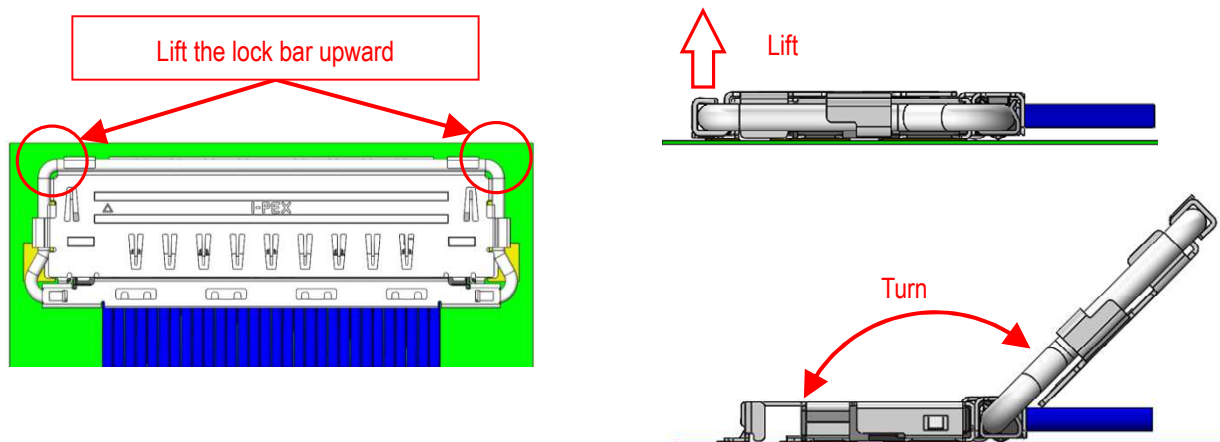

Fig.14
- ① Lift the **circled** positions of the pull bar upward to release the lock. Then, turn lock bar ass'y as shown in Fig.14.